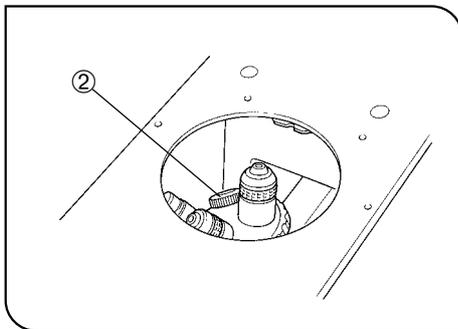

Fig. 7
★ Be sure to cover any unused threaded holes with the objective cap ② to prevent dirt and dust from getting inside. (Fig. 7)